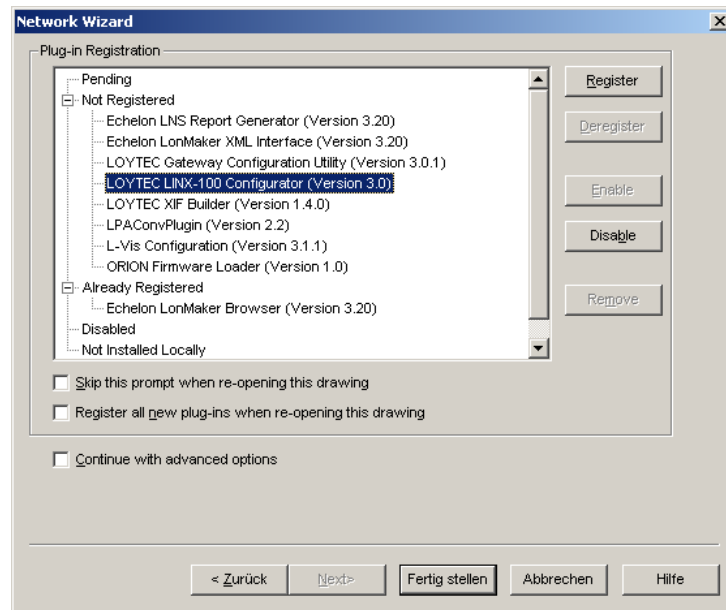

Figure 80: Select the Plug-in to be registered.
2. Click **Next** until the plug-in registration tab appears in the Network Wizard. Select the **LOYTEC LINX Configurator (Version X.Y)** from the list of **Not Registered** (see Figure 80).